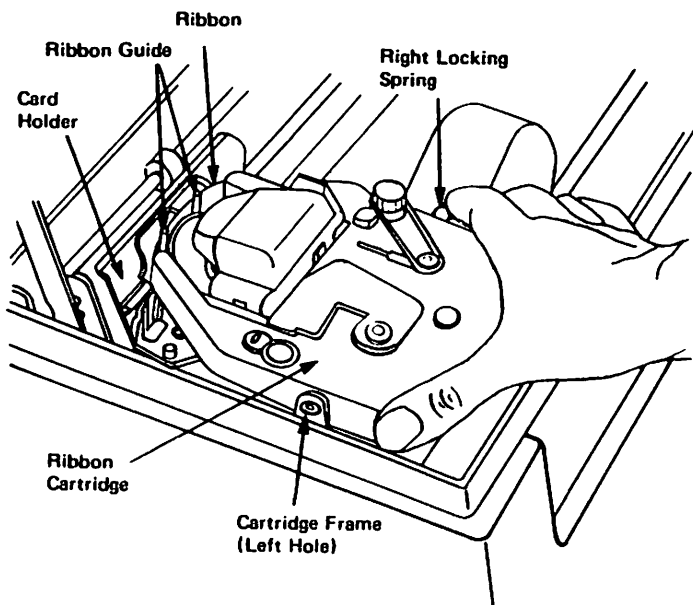

Figure 35 Removing the ribbon cartridge
2. While holding the ribbon cartridge, press the right locking spring to the right, and remove the cartridge by lifting upward on the right side (Figure 35).